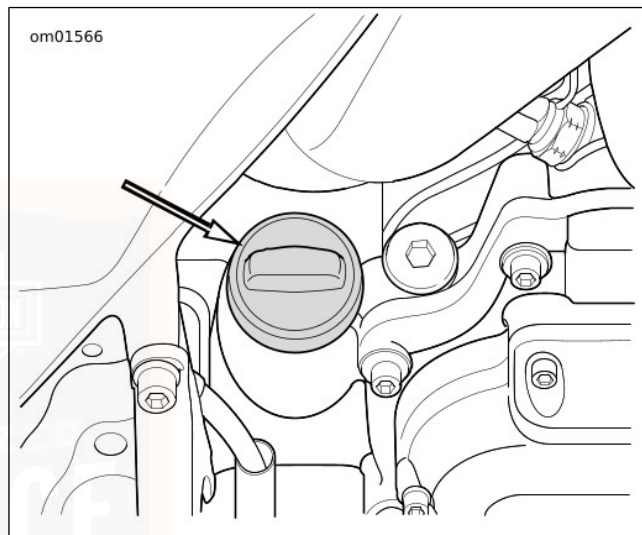

Figure 62. Engine Oil Filler Plug
2. See Figure 62. Check engine oil level.
3. See Figure 62. Check oil level.